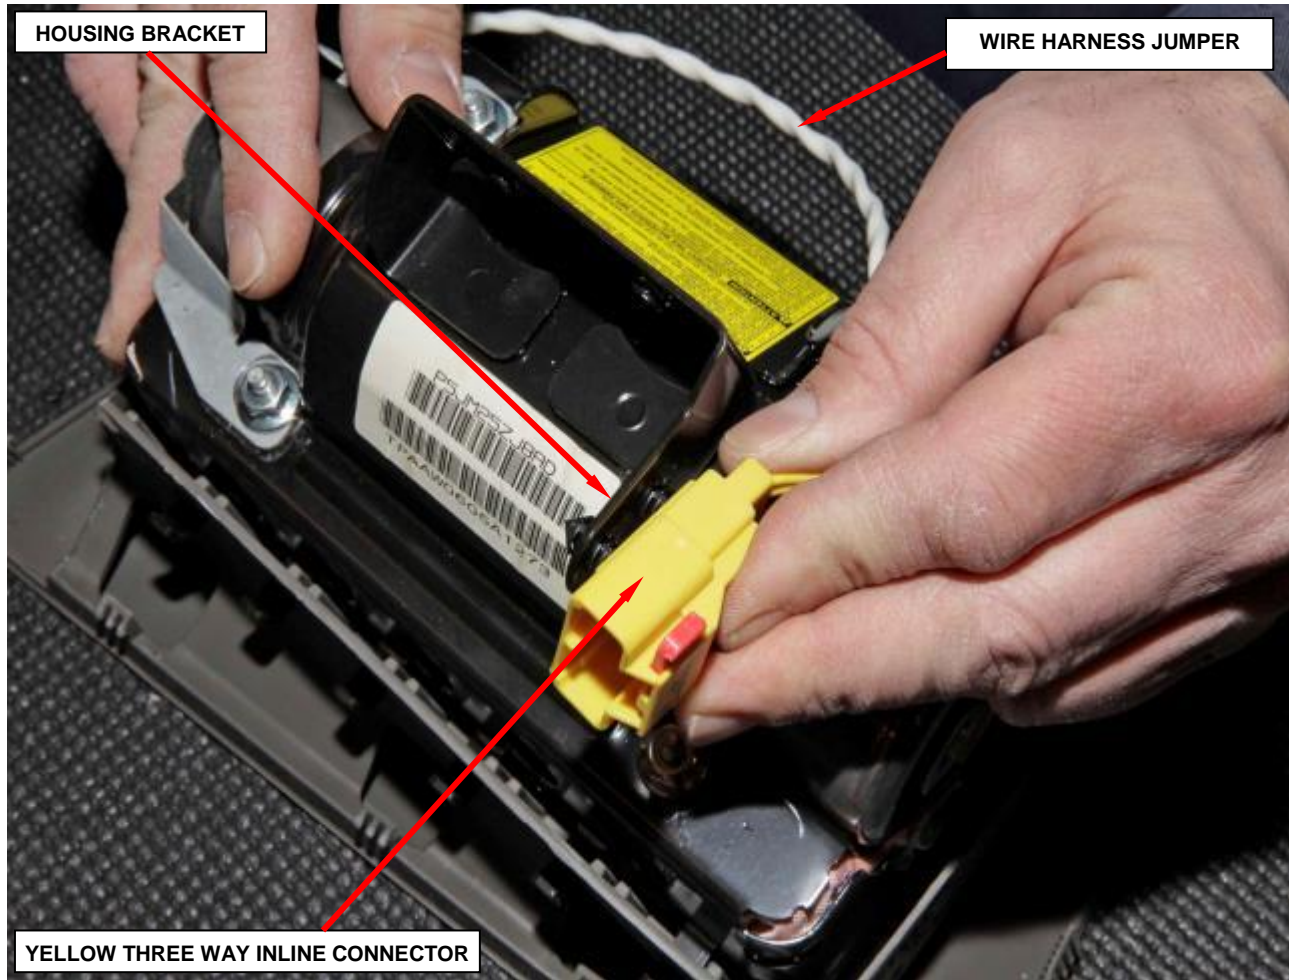

Figure 46 – Inflator Connectors
- d. Release the yellow three way inline connector from the housing bracket (Figure 46).
- j. Install the yellow three way inline connector to the housing bracket (Figure 46).